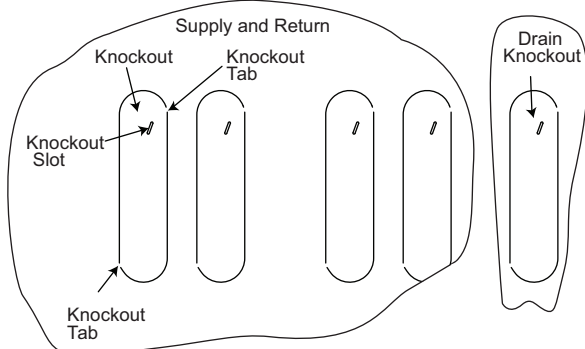

Fig. 21 — Remove 42SUA Unit Knockouts
3. Insert a flat head screw driver into knockout slot shown in Fig. 21.